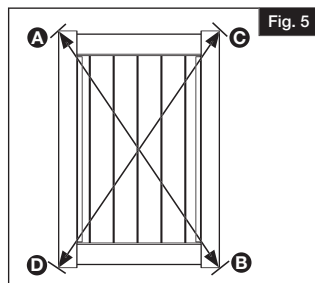

Fig. 5
Ensure the door is square. Measure diagonally from top of left corner rail (A) to bottom of right corner rail (B) and note the length. Then, measure diagonally from top of right corner rail (C) to bottom of left corner rail (D). Note the length. Make sure both measurements are the same before installing screws into uprights (Fig. 5)